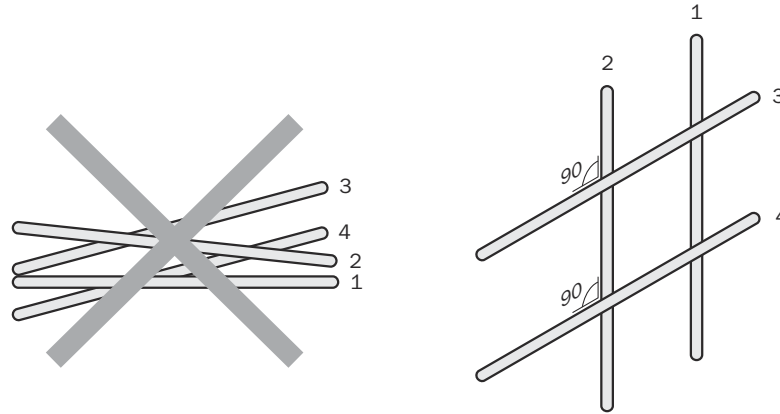

Figure 3: Cross cables at right angles
- ▶ Cables in groups 1, 2 and 3, 4 must be crossed at right angles, see figure 3.